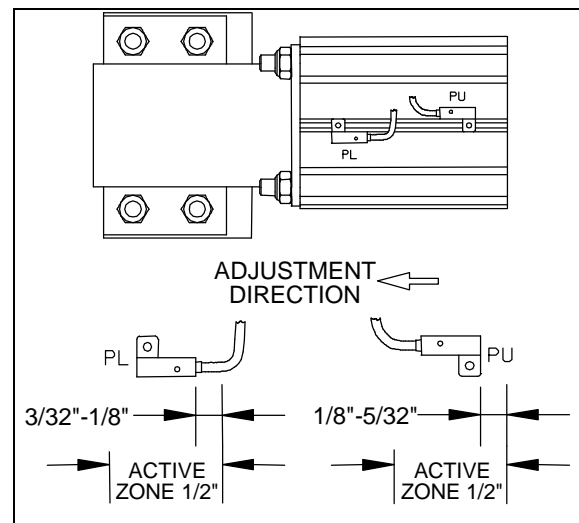

FIGURE 14 : SENSOR SWITCH ADJUSTMENT
2. Slide the pin locked sensor (PL) in the air cylinder groove (FIGURE 14 and FIGURE 56).
3. Place the PL sensor in the zone where it is activated. Move slowly the sensor toward the back side of the cylinder until it is deactivated. Bring back slowly the sensor (adjustment direction) and when it is activated again, continue to move it on 3/32" to 1/8". Tighten the sensor screw (figure 14).
5. Slide the pin unlocked sensor (PU) in the air cylinder groove.
6. Place the PU sensor in the zone where it is activated. Move slowly the sensor toward the back side of the cylinder until it is deactivated. Bring back slowly the sensor (adjustment direction) and when it is activated again, continue to move it on 1/8" to 5/32". Tighten the sensor screw (figure 14).
Note: It is important to adjust the sensor following the adjustment direction (figure 14).